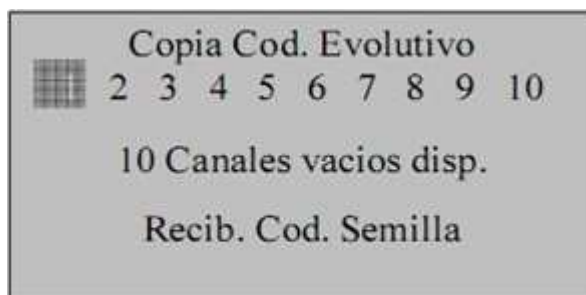

Fig. 9
- No display surge **“Recib. Cod. Semilla”** (fig.9);